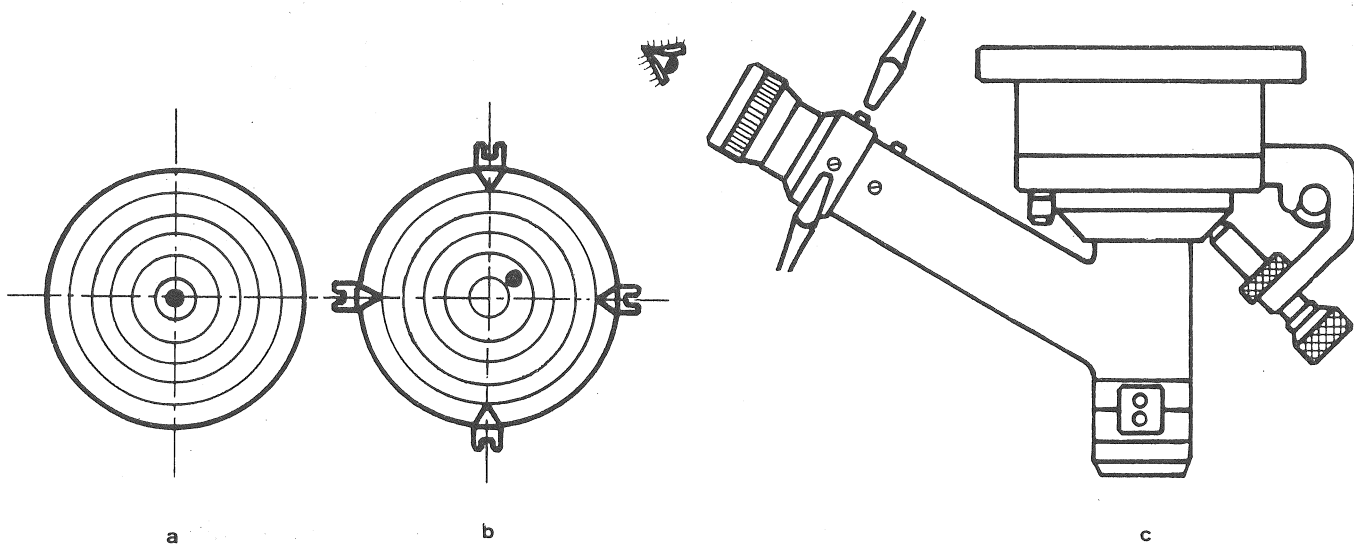

Fig 1
10. If the imprint of the center-punch appears in the center of the reticle, the latter is correctly centered (fig. 1 a). If this is not the case, (fig. 1 b), center the reticle with respect to the imprint by means of the adjusting screws (fig. 1 c).